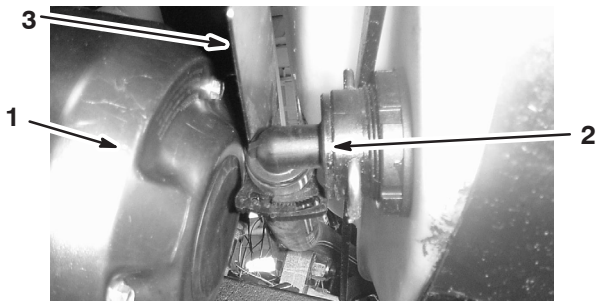

Figure 55
3. Disconnect the hose located on the lower-front face of the tank (Fig. 55).
Note: You may need to push the heat shield (Fig. 55) back as you remove the cover.
- 7. Connect the hose on the front of the tank (Fig. 55).